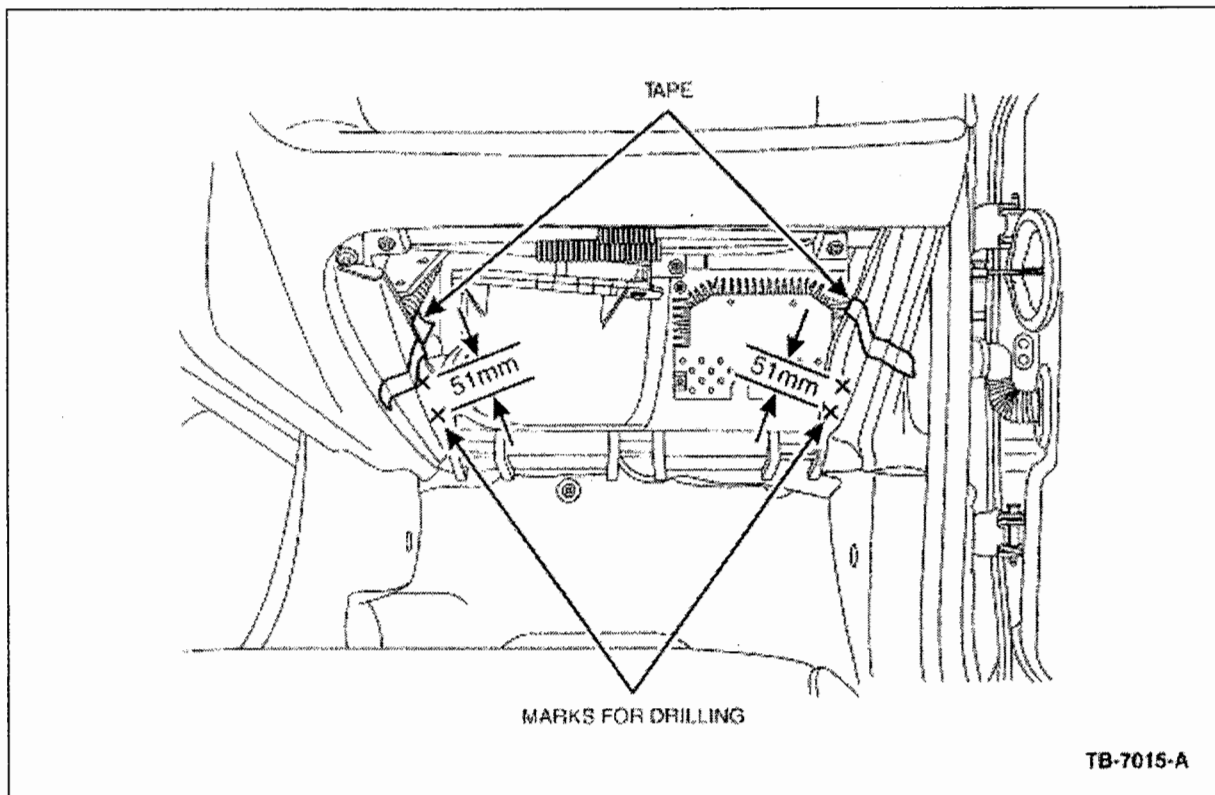

Figure 14 - Article 03-4-6
NOTE: THE RIVET HOLES THAT ARE GOING TO BE DRILLED MUST BE SPACED APPROXIMATELY 51 MM (2 IN.) APART AND MUST BE PLACED BELOW THE TAPE THAT WAS APPLIED EARLIER IN THIS PROCEDURE (FIGURE 14).
32. On each side of the bottom of the glove box opening, measure out and place two (2) marks to indicate where the rivet holes will be drilled (Figure 14).
33. Using a 3.2 mm (1/8 in.) drill bit, drill one (1) hole in each of the four (4) locations marked (Figure 14).
34. Using a commercially available pop rivet gun, install one (1) supplied rivet in each hole that was drilled into the bottom of the glove box opening.